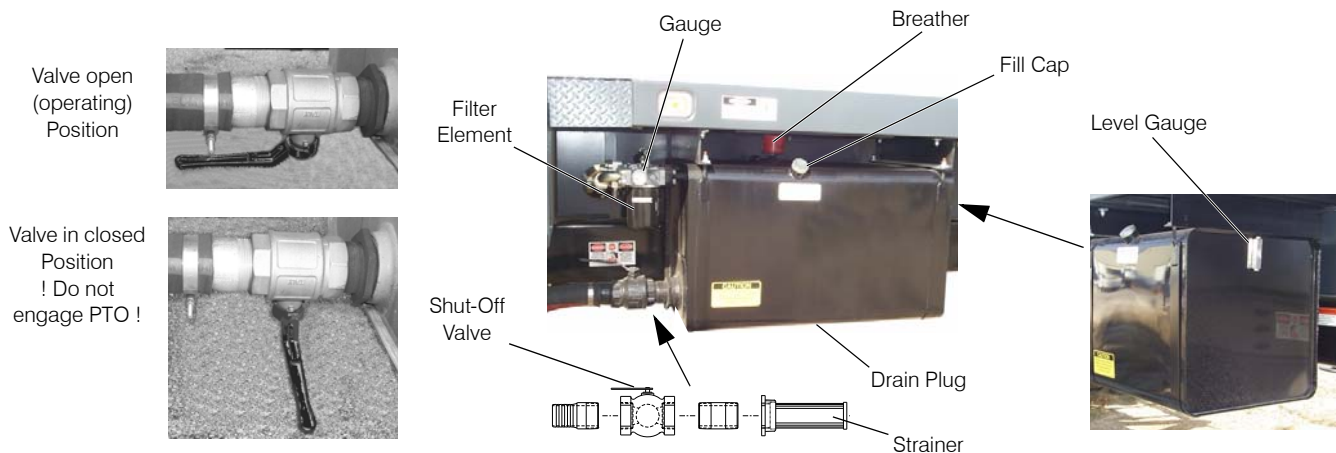

Figure 6-8 Hydraulic Tank
Refer to Figure 6-8.
- Remove the drain plug from the bottom of the tank to drain the oil, see Figure 6-8.
- Open suction line shut-off valve before starting engine or engaging PTO; otherwise, the pump will cavitate and be ruined. See Figure 6-8.